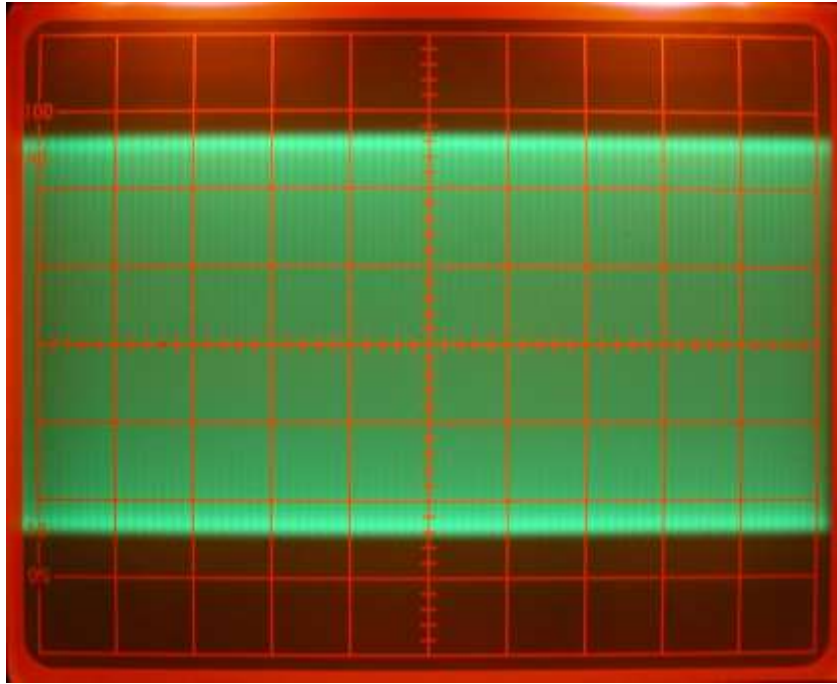

Fig 63
Fig 63 shows the RF output of a six channel Frequency modulated (FM) Transmitter. The shaded area of the waveform is RF at 40MHz. The FM modulation system within the Transmitter is changing the frequency of the 40MHz RF signal at a rate and magnitude proportional to the six channel pulses and one synchronisation pulse. Unfortunately the change in frequency is so very small it is not possible to actually see the frequency change on the oscilloscope, as one can only just discern the individual cycles of the 40MHz signal.